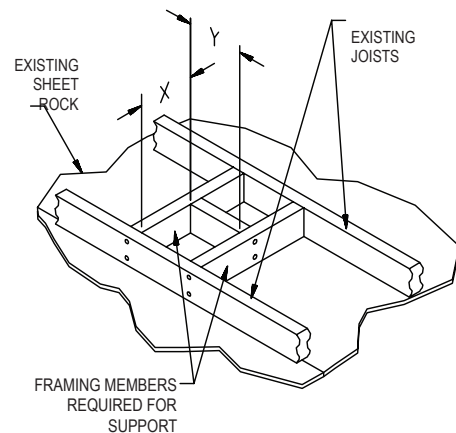
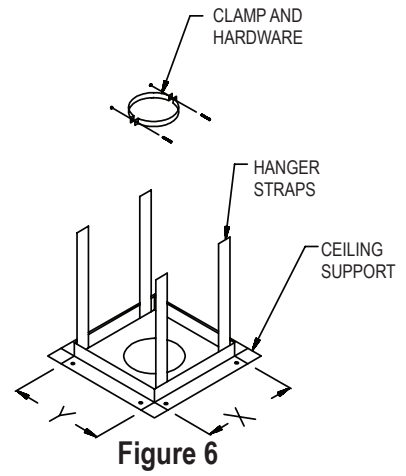

Figure 4
Figure 6
3. Ceiling Support. For a ceiling supported system, install the Square Firestop/Support as shown in **Figures 6, 7, and 8**. The Firestop Support must be framed in and the dimensions are shown in **Table 1** and shown in **Figure 4**. Firestop Supports are currently manufactured for pipe sizes of 3" through 12" only. Larger sizes may be locally fabricated from sheet metal, provided that the mandatory 1-inch